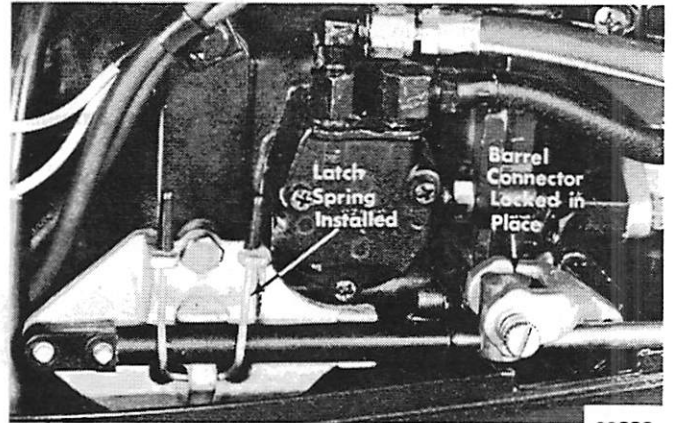

Figure 3. Shift Cable Installed - 1967
4. When alignment is achieved, insert clevis pin thru barrel and opposite side of clevis and turn 90° to lock pin in place. (Figure 3 or 4)
- a. 1967 Model: Place hole in end of cable guide over peg on shift cable end anchor bracket. Fasten cable end in place by latching "hairpin" spring clamp. (Figure 3)